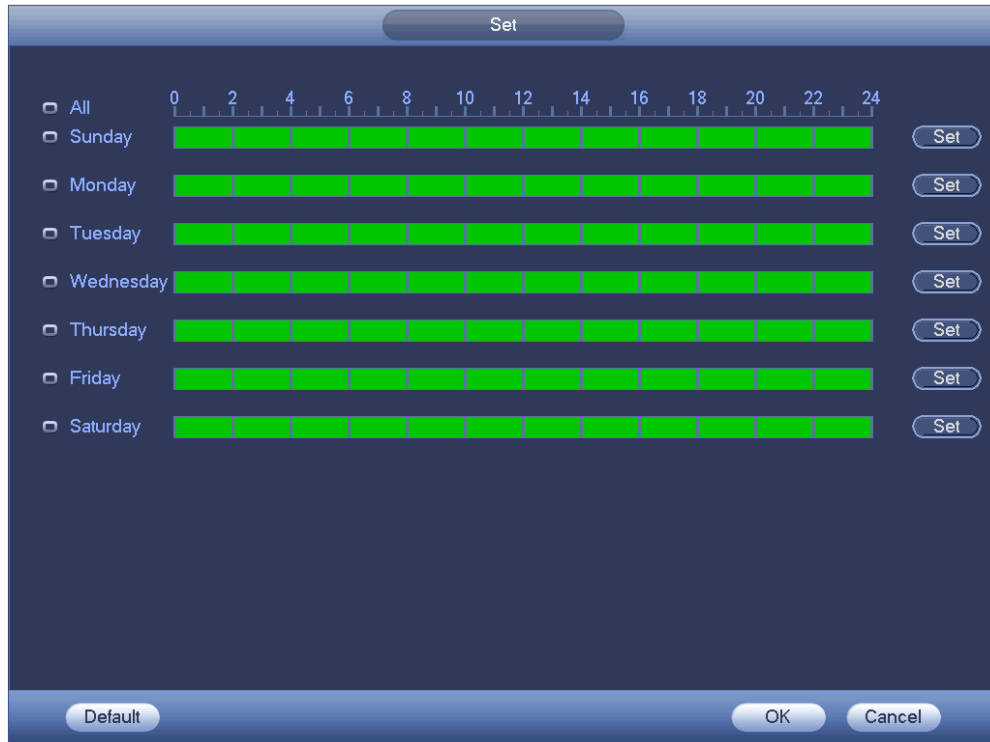

Figure 4-205
Step 4 Click the Set button after the period, you can set valid period to use current account. See Figure 4-205.